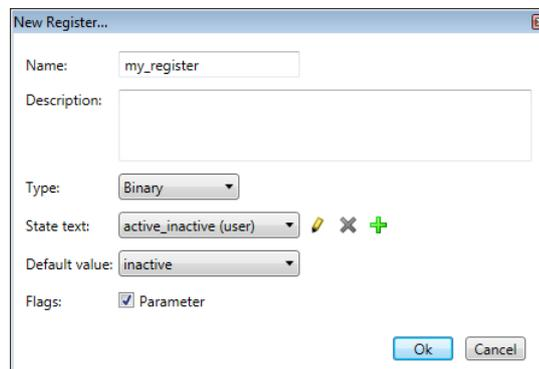

Figure 117: New LWEB-900 Server User Register
1. Right click on the folder **System/User Registers** and select **New → New Register...** from the context menu. This opens the register creation dialog as shown in Figure 117.